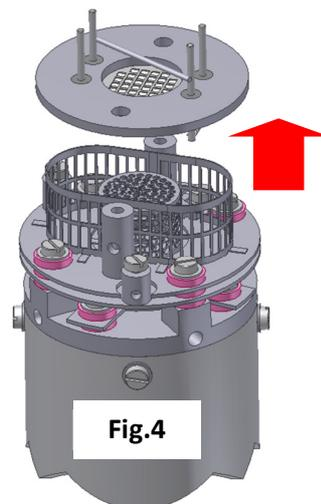

Fig.4
5. Remove the filament plate assembly. Carry out this step carefully so as not to damage the filaments or source cage, see Fig.4.